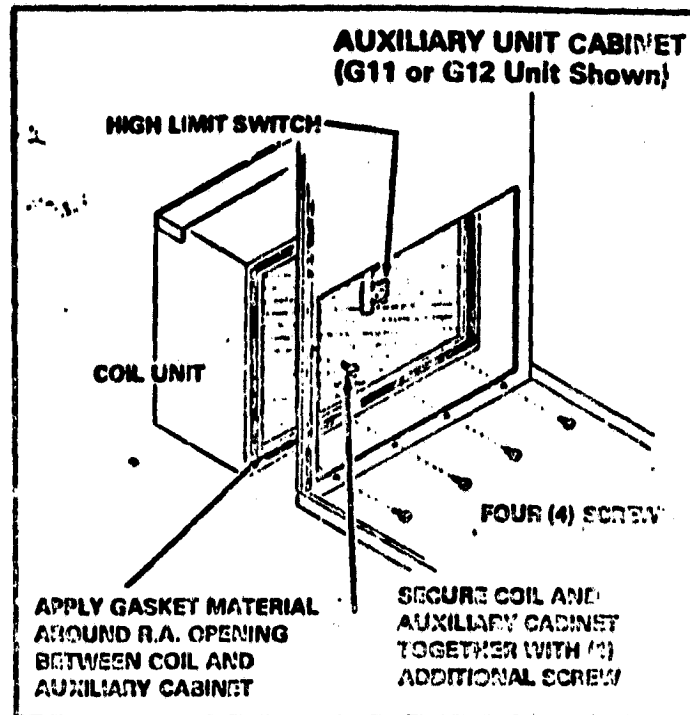
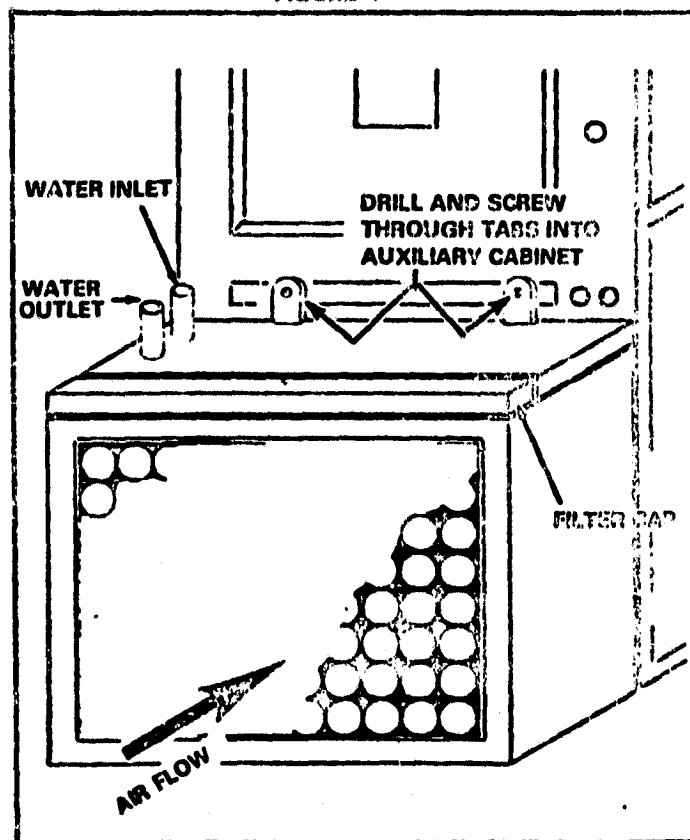

FIGURE 4
FIGURE 5
4. Remove bottom (4) screws from base of G11 or G12 unit on the return air cutout side. See Figure 4.
7. From inside blower compartment drill and fasten CW3-45 cabinet to G11 or G12 cabinet with (4) sheet metal screws (use existing holes in G11 or G12 cabinet). Drill and screw the two cabinets together at (1) other accessible location.
8. Drill and fasten with (2) screws at tabs on top of CW3-45 cabinet. See Figure 5.